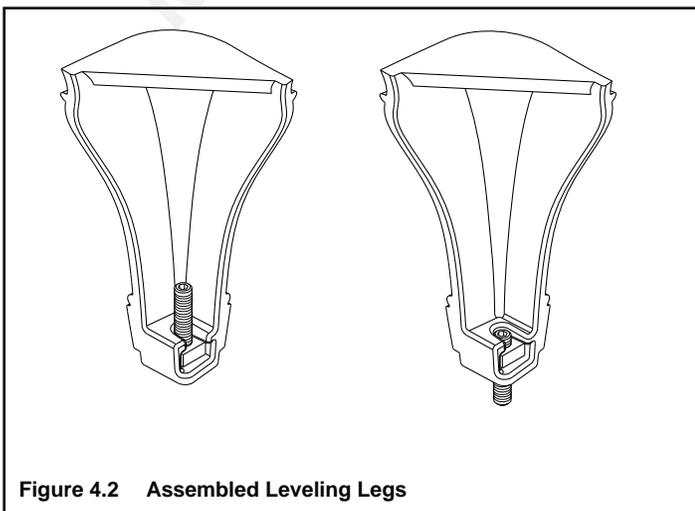

Figure 4.2 Assembled Leveling Legs
- Slide assembled nuts and bolts into the slot on the legs with the nuts on the bottom. Use a 5/32 in. (3.96 mm) Allen wrench to adjust legs to the desired level. See Figure 4.2.